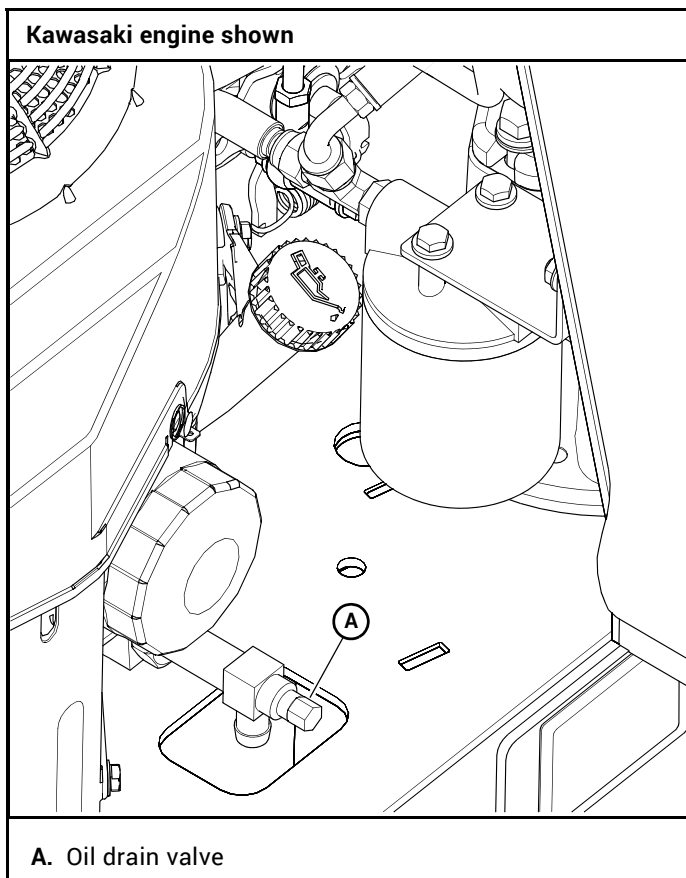

Figure 4-12
1. Locate the oil drain valve on the engine. Figure 4-12